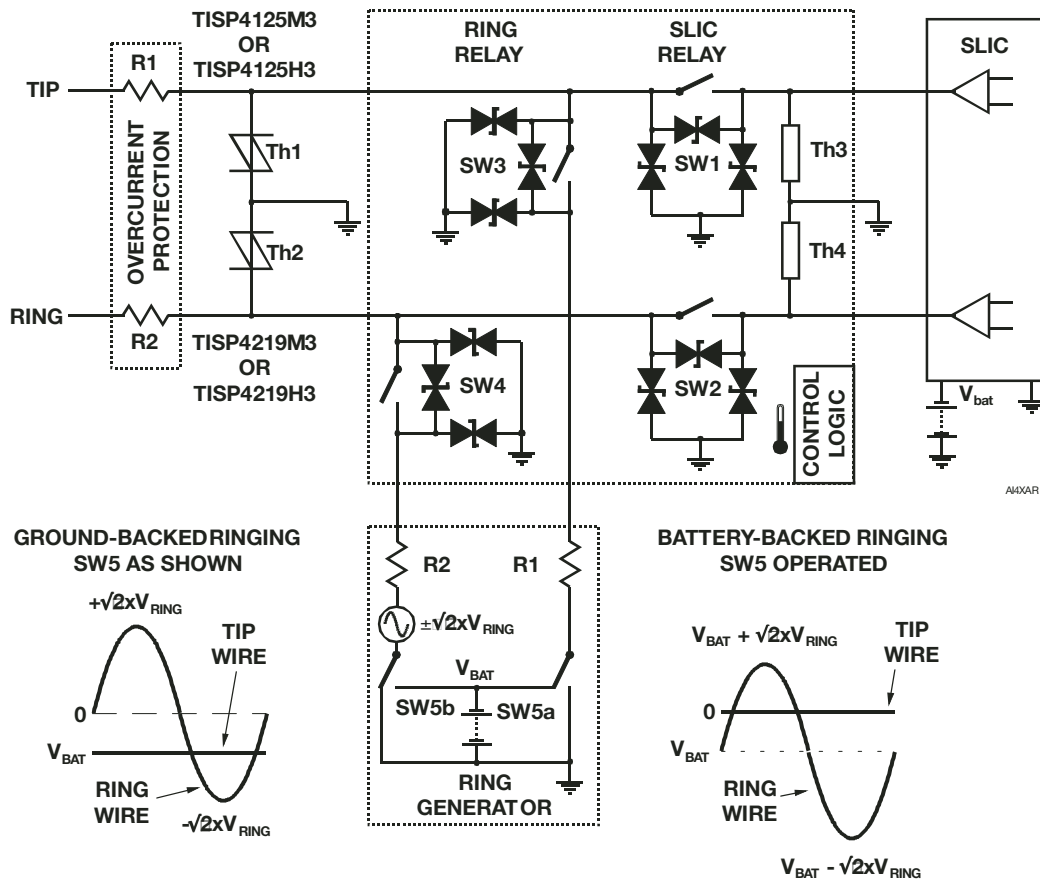

Figure 13. LCAS Shown with Switch Breakdown Limits
Figure 13 shows the LCAS switch voltage ratings as breakdown diodes, which must not be allowed to conduct. Each switch has three diodes; one between poles and the other two from each pole to ground. At 25 °C, switches SW1 through to SW3 have breakdown diode voltages of  $\pm 320$  V. Switch SW4 has breakdown diode voltage values of  $\pm 465$  V for the one between poles and  $\pm 320$  V for the two diodes connected to ground. Note that only protection to ground is required, as in the limit, the inter-switch voltage limitation of  $\pm 640$  V is the same as the switch to ground limitation of  $+320$  V and  $-320$  V in both polarities.
- ground-backed and battery-backed ringing configurations (see Figure 13).